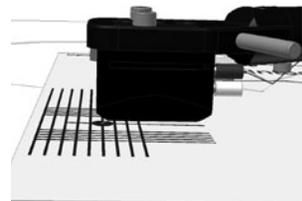

Figure 28
3. It is important the Front and Sides of the Phono Cartridge Body line up with these parallel lines when looking down over the top of the Tone Arm. Refer to figures 28 and